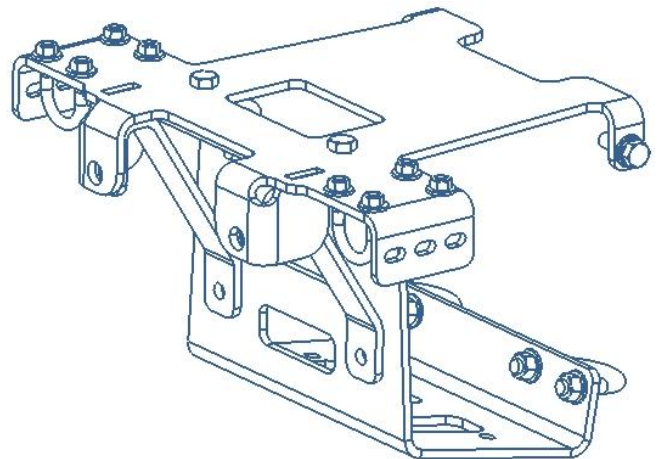

Figure 5 Assembled Upper and Lower Brackets
8. Double check that all nuts and bolt on the upper and lower mounting brackets are securely fastener. The assembled brackets should look like figure 5.